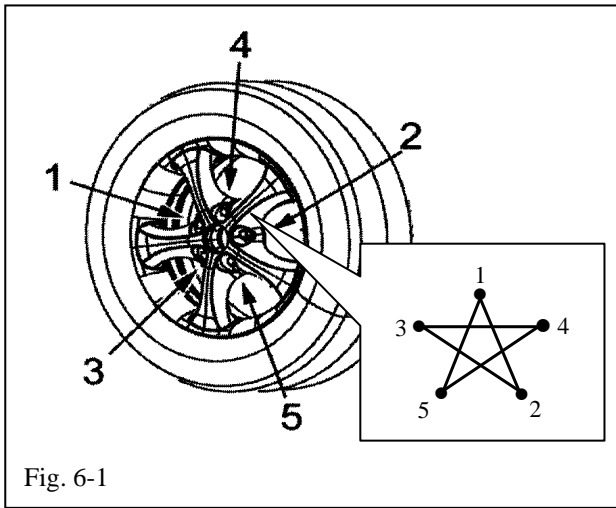

Fig. 6-1
-  (a) Install wheel/tire assembly on vehicle. Hand start the lug nuts during installation. Tighten lug nuts in sequence 1 through 5 (Fig. 6-1). Ensure that the socket does not scuff the wheel. Tighten to 131N-m (97 lbf-ft) using a torque wrench.